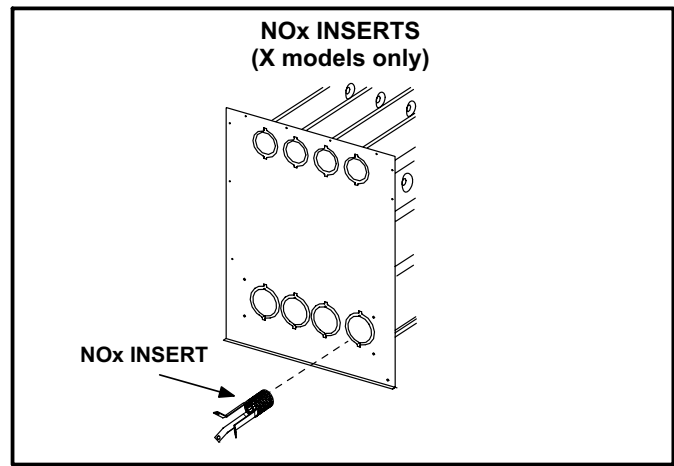

FIGURE 21
- 8 - **NOx units only** - Remove the three screws that attach the NOx insert to the corbel at the entrance to each heat exchanger section. Carefully remove the NOx insert from each section. See figure 21.
- 16- **NOx units only** - Reattach the NOx inserts to the corbels at the entrance to each heat exchanger opening. See figure 21.